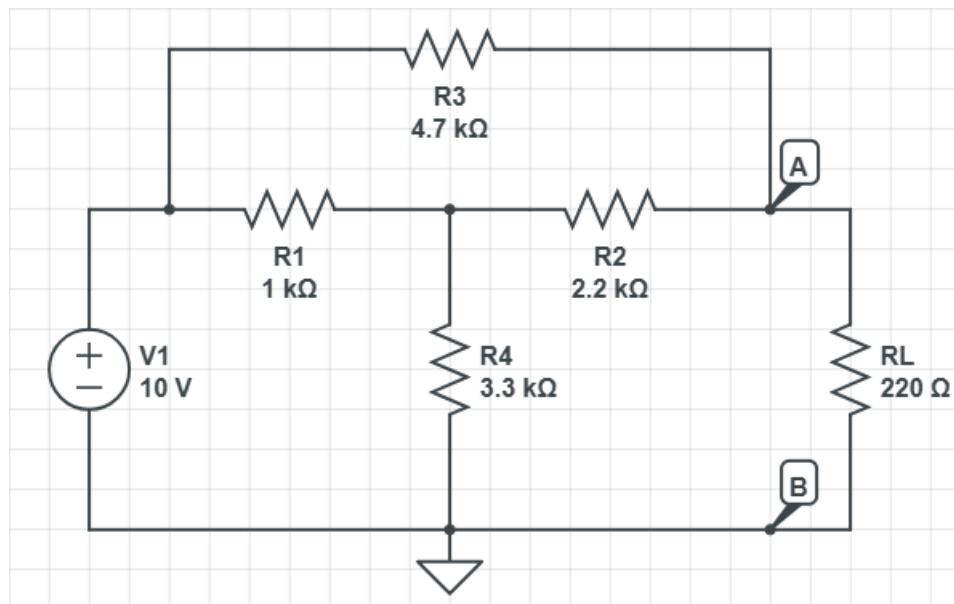

Figure 5.4.1: Circuit diagram
1. Connect the circuit as shown in Fig. 5.4.1. Measure the voltage drop across the R_L . Designate this as V_{R_L} .